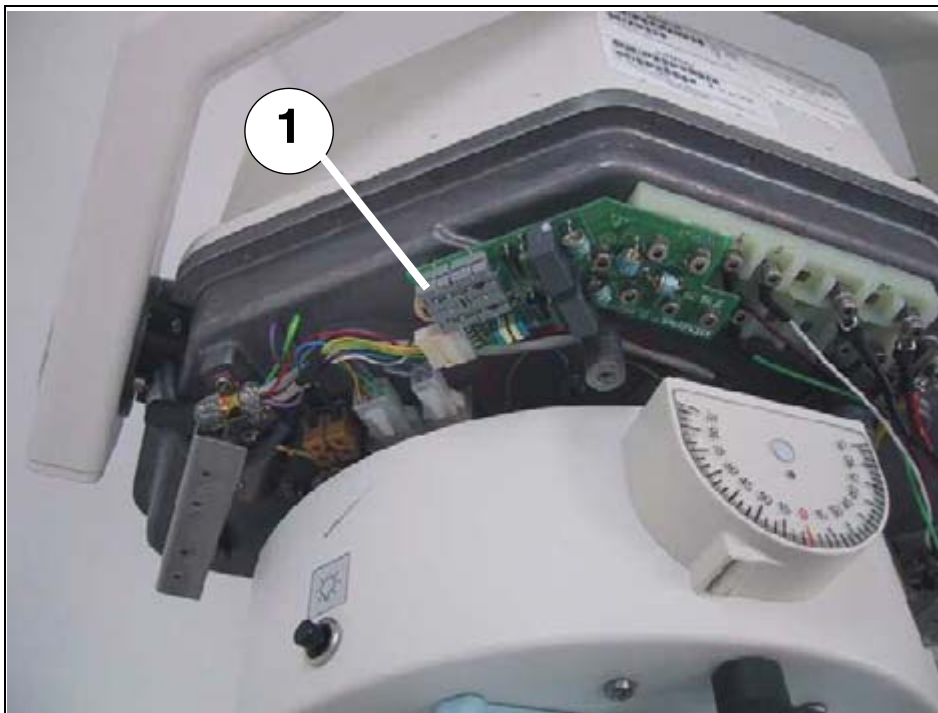

Fig. 20: mAs jumper D907
- Remove cover from single tank and connect mAs meter to D907 (1/ Fig. 20 / p. 47).